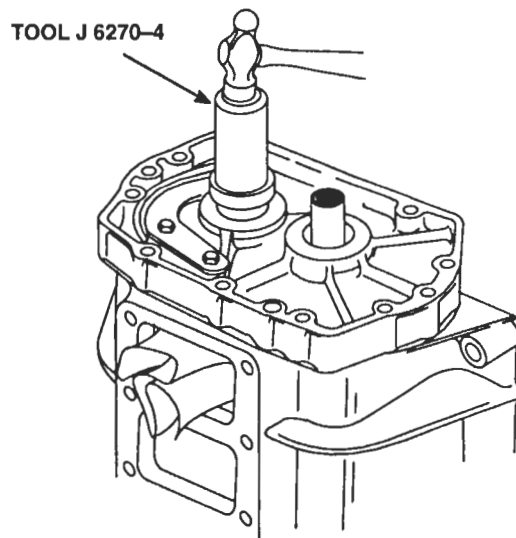

Figure 19. Installing Roller Bearings on Rotor Shaft and in Front End Plate
- b. Place installer J 6270-4 on top of the bearing and tap the bearing on the shaft and into the front end plate (Figure 19.)